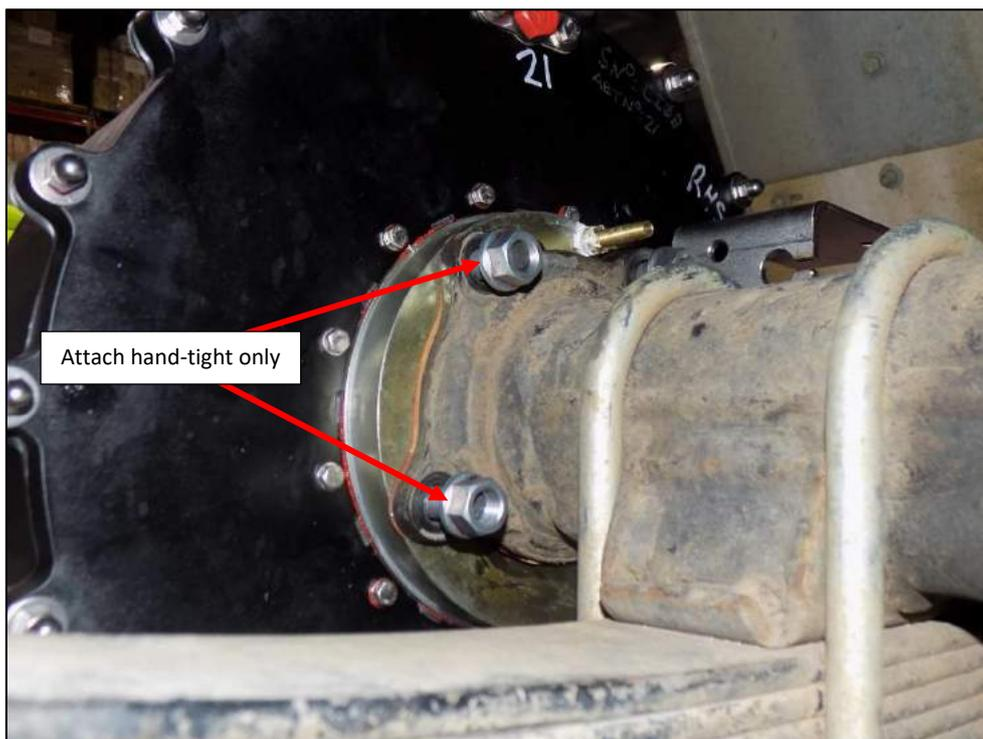

Figure 4
17. Fit the 4x brake mounting nuts hand-tight (Figure 4). For drum brake equipped vehicles, firstly fit the 4x spacers under each mounting nut.